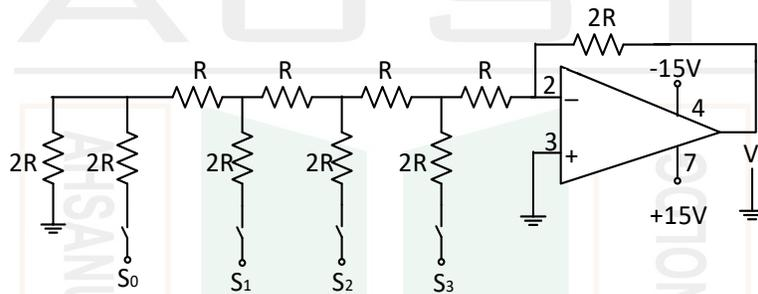

Figure-3
In this experiment R-2R Ladder circuit (figure-3) is used. Output equation of an R-2R Ladder circuit is given by-
1. Construct the circuit in figure-3. Connect  $S_0$ ,  $S_1$ ,  $S_2$  and  $S_3$  to the SPST switches of trainer board.
6. What is the purpose of using Opamp in figure-3?